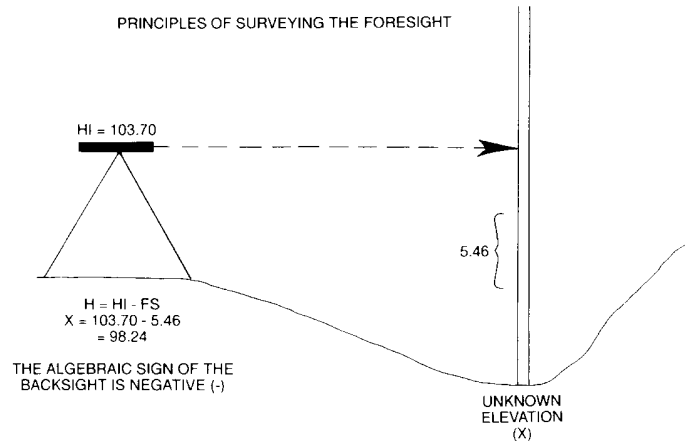

Figure 27. - Surveying the foresight.
Once the backsight on BM1 is recorded, the rod person moves to turning point number 1 (TP1). With the instrument still at setup 1, take a reading on TP1. This reading is a foresight (FS), a reading taken on a point of unknown elevation (fig. 27).